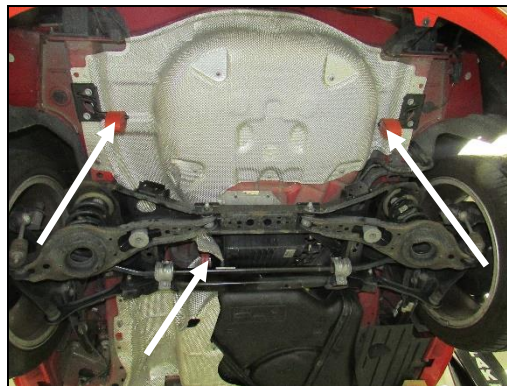

Figure 5
7. Go to the muffler, remove the (x3) hangers out of the rubber isolators, and remove the muffler from under the car (Figure 5).